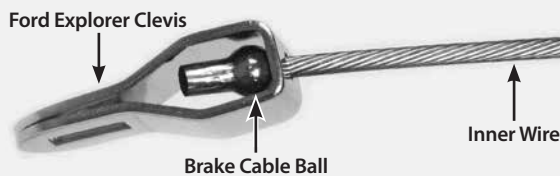

Fig. 7
Step 7: Install the Ford Explorer clevises onto the inner wires by sliding the end of the inner wire without the ball end on it through the 1/8" hole from inside the U-shaped part of the clevis. Pull the inner wire through the clevis until the brake cable ball on the end of the inner wire stops inside the clevis. **Fig. 7**